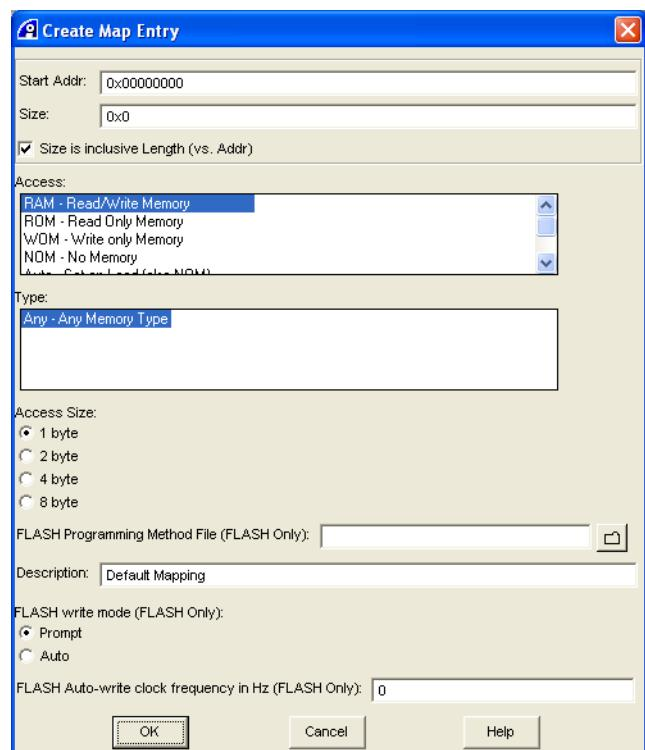

Figure 9-8 Create Map Entry dialog box
5. Select **Create Map Entry...** from the context menu to display the Create Map Entry dialog box. Figure 9-8 shows an example:
2. Select **Create Map Entry...** to display the Create Map Entry dialog box. Figure 9-8 on page 9-12 shows an example.